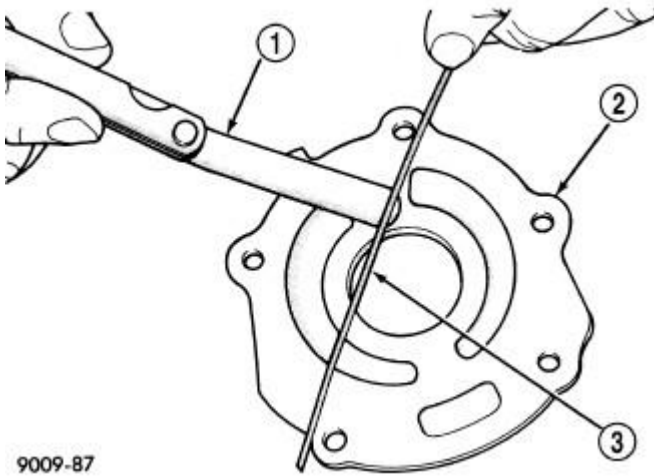

Fig. 174: Checking Oil Pump Cover Flatness
2. Lay a straightedge across the pump cover surface. Refer to **Fig. 174**. If a 0.025 mm (0.001 in.) feeler gauge can be inserted between cover and straight edge, cover should be replaced.